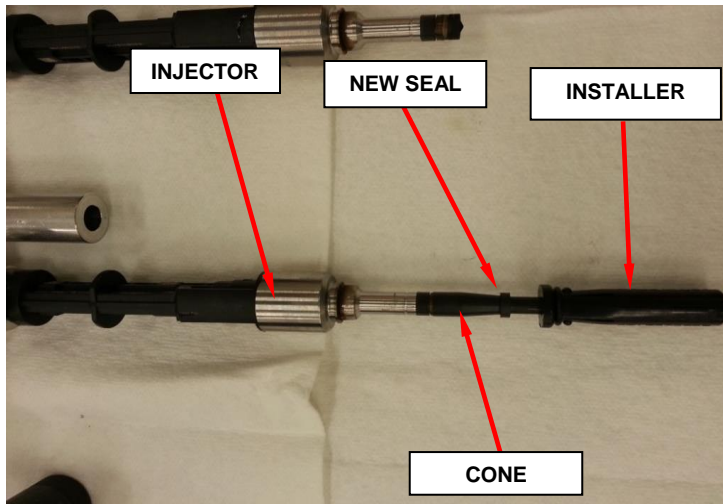

Figure 34 – Injector Seal Installation
93. Insert the **NEW** injector seal on the Cone, Injector Seal Installer 2025501141 mounted on the injector (Figure 34).